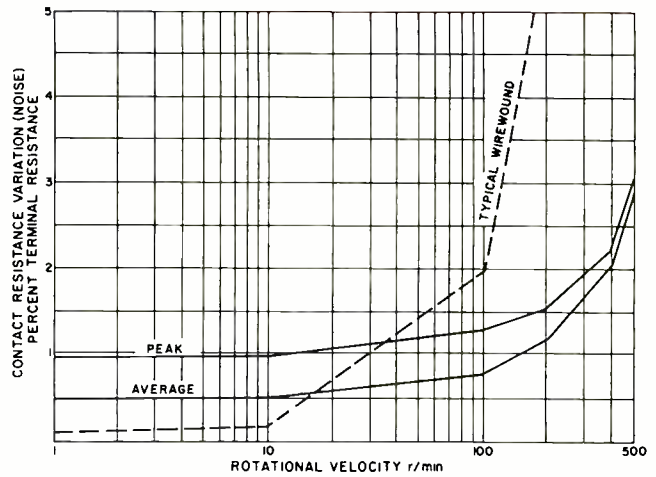

Fig. 1. Contact-resistance variation (noise) of a typical 2" non-wirewound potentiometer compared to wirewound type.
2. Contact resistance variation: (See Fig. 1) A random variable up to 1% of terminal resistance in magnitude, depending mainly on uniformity and composition of resistance element, wiper contact pressure, and number of wipers. Typical maximum effect of 1% contact resistance variation on output voltage is .0015% (10 k $\Omega$  potentiometer resistance, 1 megohm wiper load).